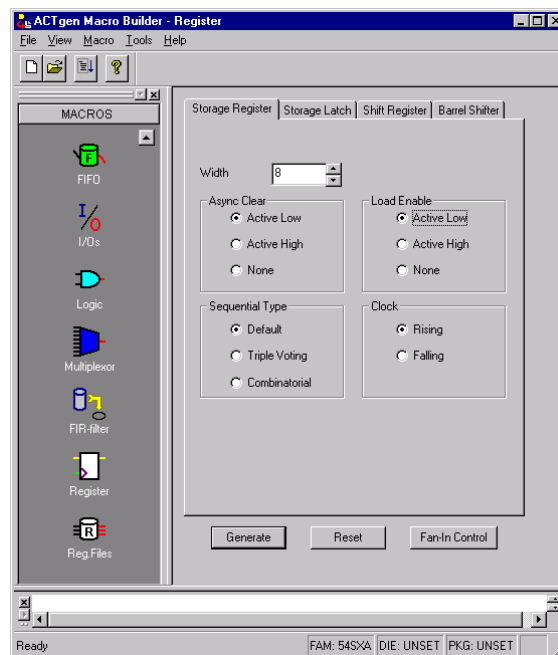

Figure 6 - Creating an 8 bit storage register with ACTgen
1. From the ACTgen GUI, create another register named reg8 by selecting the Storage Register tab and specifying the following options (Figure 6):